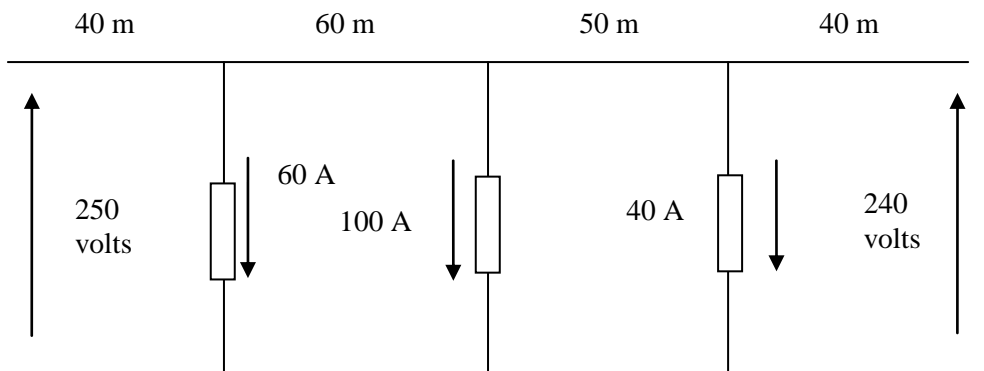

Fig Q1
1. Fig Q1 shows a supply system fed with a different voltage at each end. The resistance of the twin supply cable ('go and return') is  $0.001 \Omega/\text{m}$ .